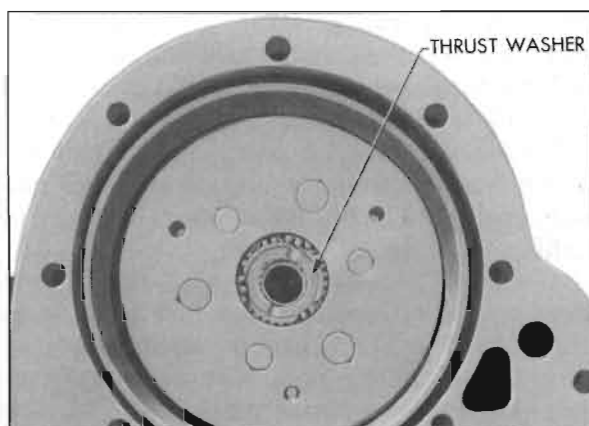

Figure 4-139—Reaction Gear Thrust Washer in Place
5. Place reaction gear bronze thrust washer centrally over the sun gear. See figure 4-139.